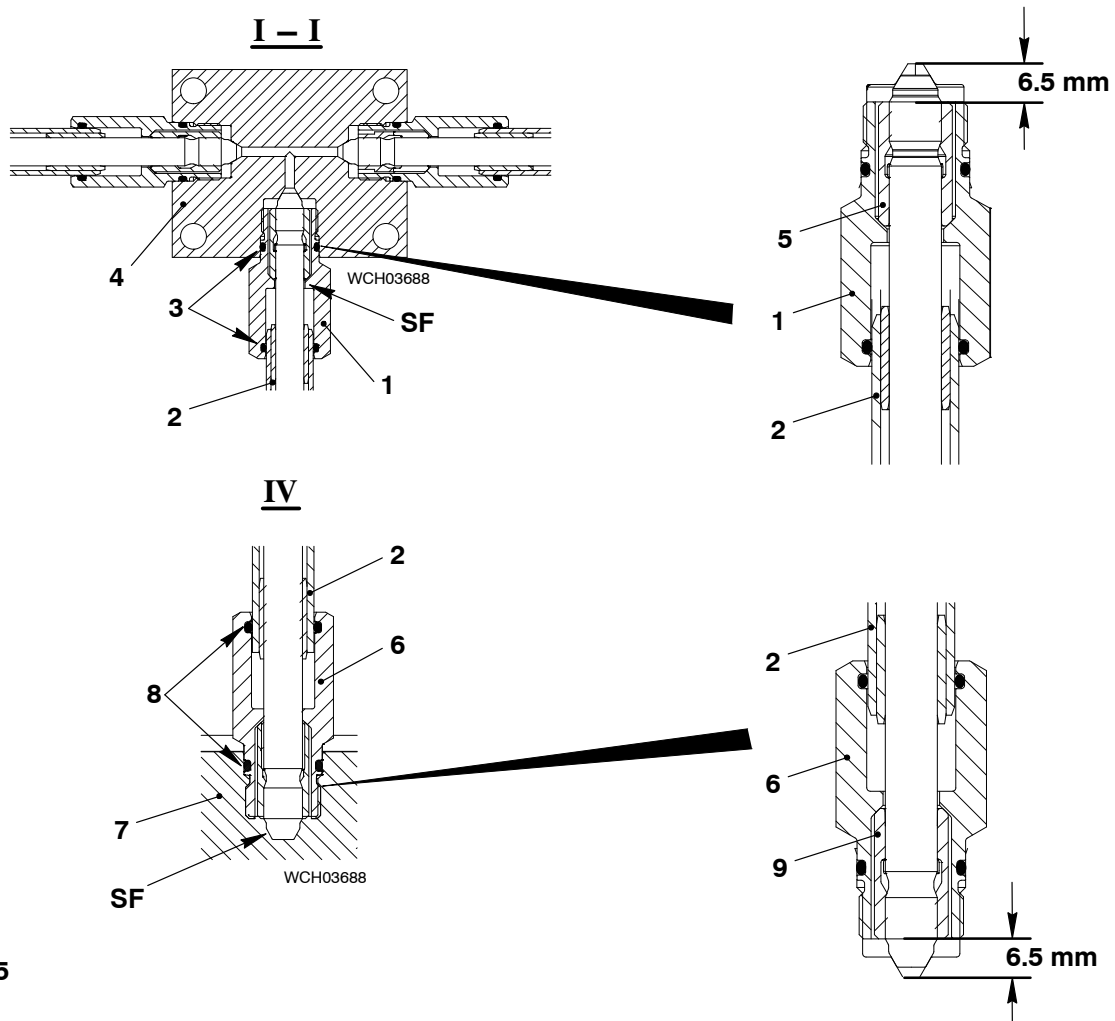

Fig. 5
- 3) Put new O-rings (3 and 8, Fig. 5) in position on the pilot fuel pipe (2).
- 4) Put the pilot fuel pipe (2) in position in the injection valve and the distributor blocks (4, 7).
- 5) Make sure that the claws (5, 9) are correctly attached to the pilot fuel pipe (2).
- 7) Make sure that there is a distance of 6.5 mm between the end of the pilot fuel pipe (2) and the claws (5, 9).